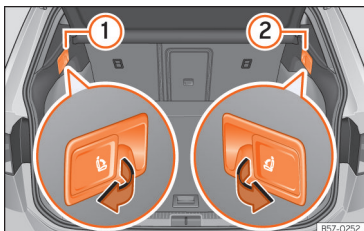

Fig. 162 In the trunk: levers for remote release of the left part ① and right part ② of the rear seat backrest.
- Pull the remote release lever of the left part »» Fig. 162 ① or right part ② of the backrest in the direction of the arrow. The released part of the rear seat backrest is folded automatically down and forwards.